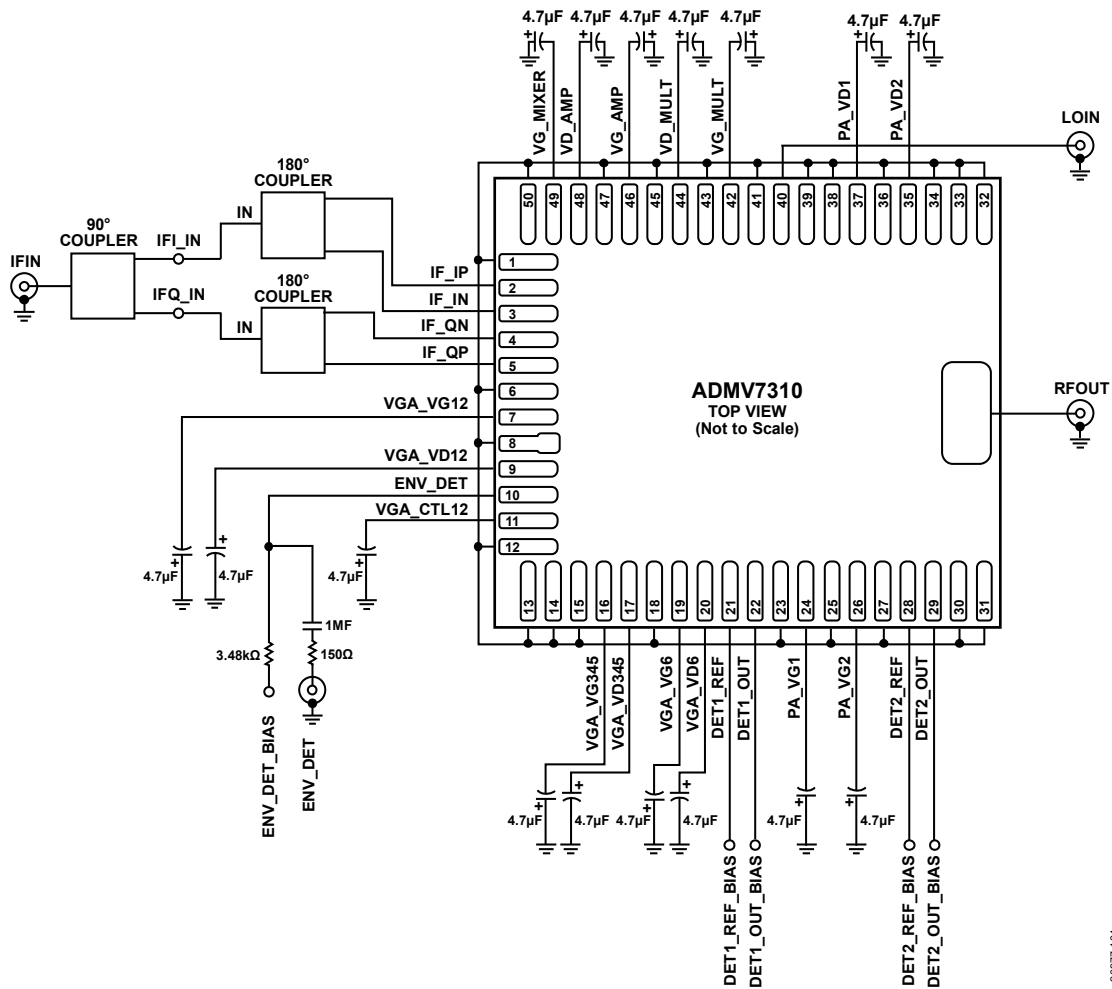

Figure 86. Typical Application Circuit
5. Apply a 4 V bias to VD_AMP, VGA_VD12, VGA_VD345, VGA_VD6, PA_VD1, PA_VD2, DET1_REF_BIAS, DET1_OUT_BIAS, DET2_REF_BIAS, and DET2_OUT_BIAS (see Figure 86).
Figure 86 shows the typical application circuit.